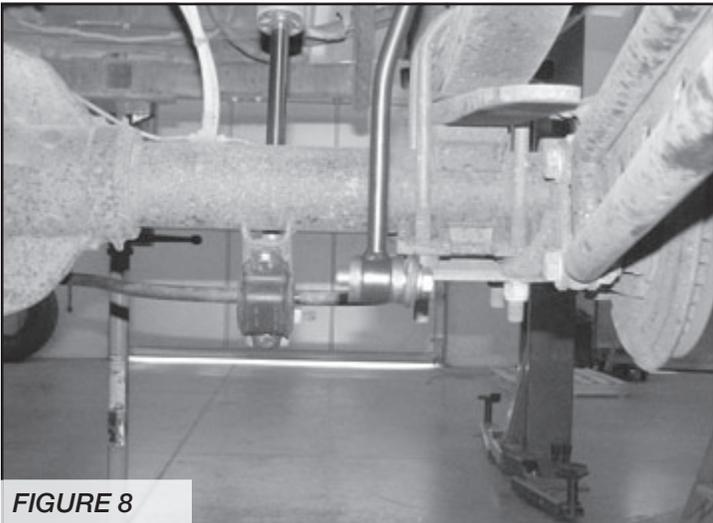

FIGURE 8
7. Mount the lower end of the link to the sway bar one 1/2-13 x 2-1/2 bolt, two 1/2" washers and one c lock nut. Torque to 90ft-lbs. **SEE FIGURE 8**